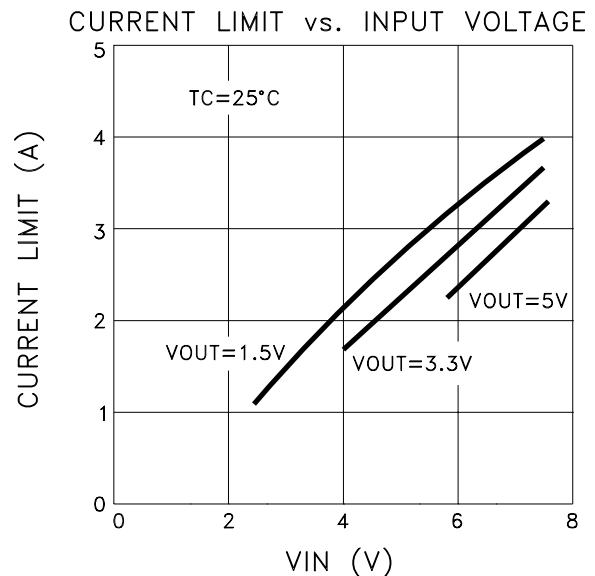

FIGURE 1
- ⑦ Output current limit is dependent upon the values of VIN and VOUT. See Figure 1 and typical performance curves.
- ⑧ Minimum VIN at -55°C and IOUT = 1.0A is 4.0V due to current limit circuitry.
- ⑨ Continuous operation at or above absolute maximum ratings may adversely effect the device performance and/or life cycle.
- ⑩ Pre and post irradiation limits, up to 300Krad TID, are identical unless otherwise specified.
- ⑪ Reference DSCC SMD 5962F09216 for electrical specification for devices purchased as such.
The MSK 5800RH current limit function is directly affected by the input and output voltages. Figure 1 illustrates the relationship between VIN and ICL for three output voltages.